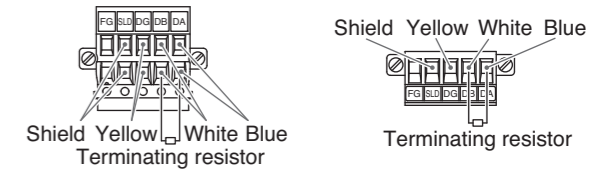

Figure 3
- (3) The terminating resistance to be connected to the CC-Link network depends on the type of cables used. (Refer to the table below. Figure 3)